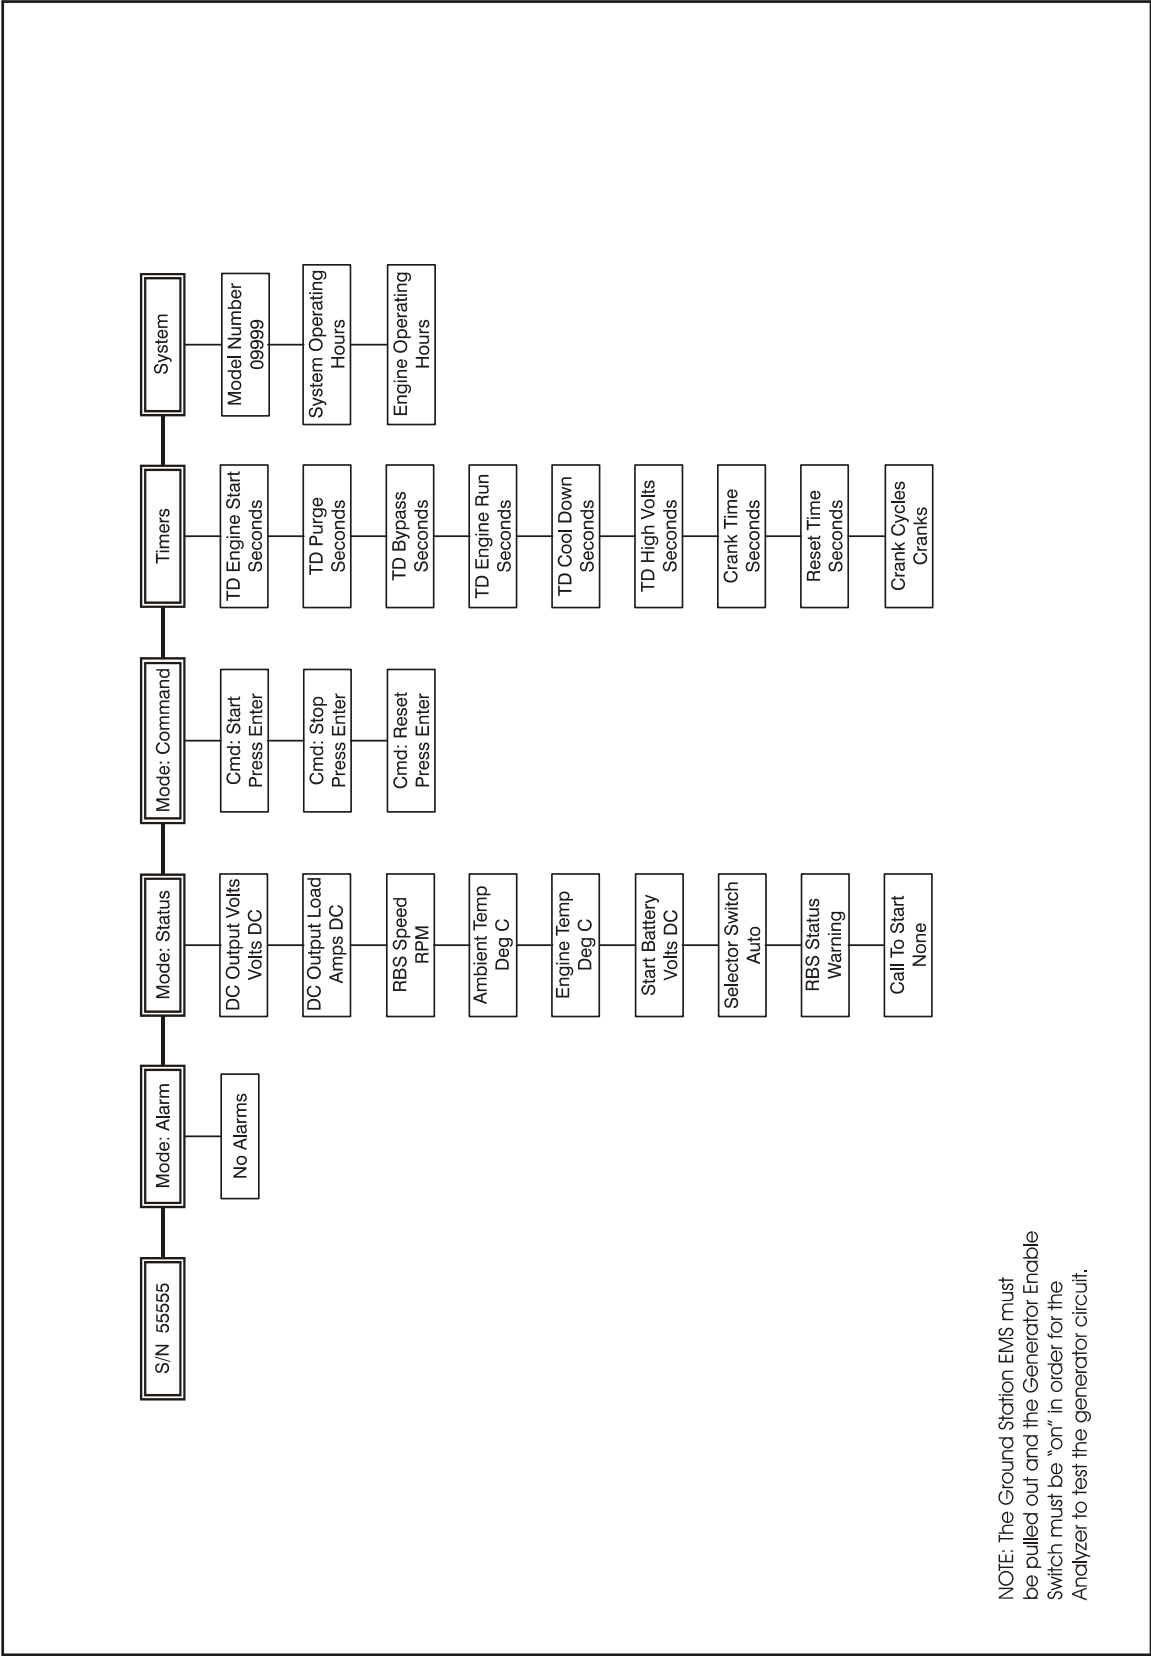

Figure 3-21. Generator System Analyzer Flow Chart
2. Power up the Analyzer by pulling out the ground station EMS and positioning the Generator Enable switch on the platform control box to the "on" position. Refer to Figure 3-21., Generator System Analyzer Flow Chart